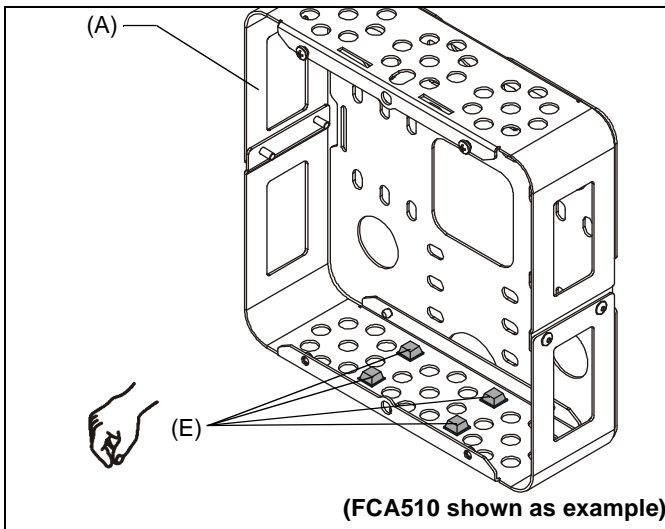

Figure 2
4. Add rubber bumpers (E) to inside of enclosure (A). (See Figure 2)